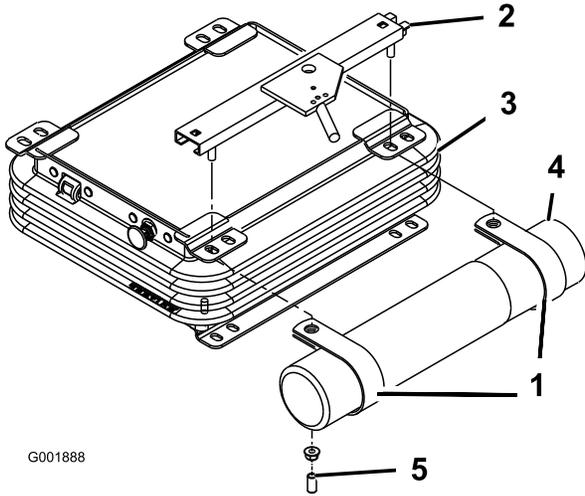

Figure 7
2. Remove the 2 nuts and vinyl caps (if previously installed) securing the upper seat bracket to the left side of the seat suspension (Figure 7).
3. Loosely mount the R-clamps to the seat bracket studs with the 2 nuts previously removed (Figure 7).